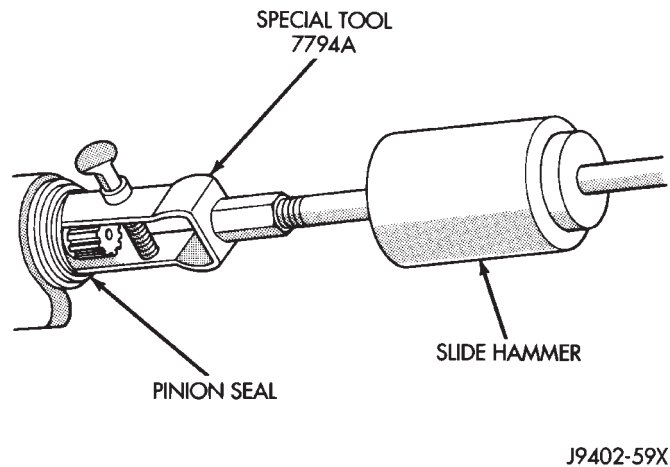

Fig. 11 Seal Removal
(10) Use Remover 7794-A and slide hammer to remove the pinion gear seal (Fig. 11).